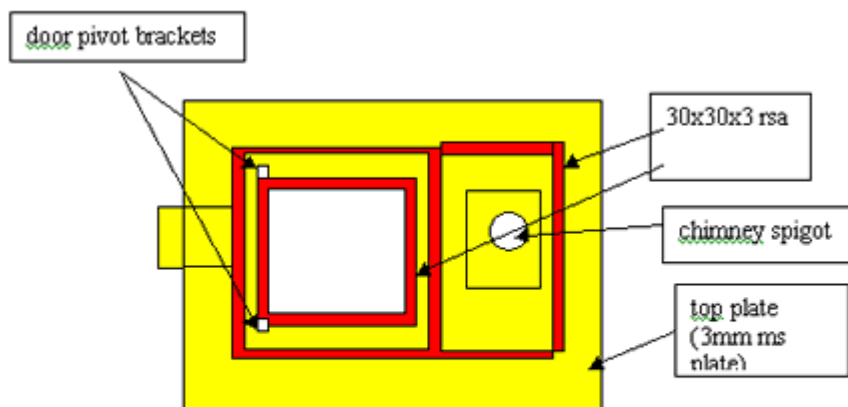

Figure 4 Sand frames of rolled steel angle fitted to top plate
7. Check that cut outs in top plate match the combustion chamber and flue. Then make and attach the sand seals and stiffeners as shown in Figure 4. All frames should be made from 40x40x3 rolled steel angle, and attachment may be either by welding or riveting. The chimney spigot should be made to suit the chimney available, which can be a steel tube of a minimum diameter 100mm. and 3m long.